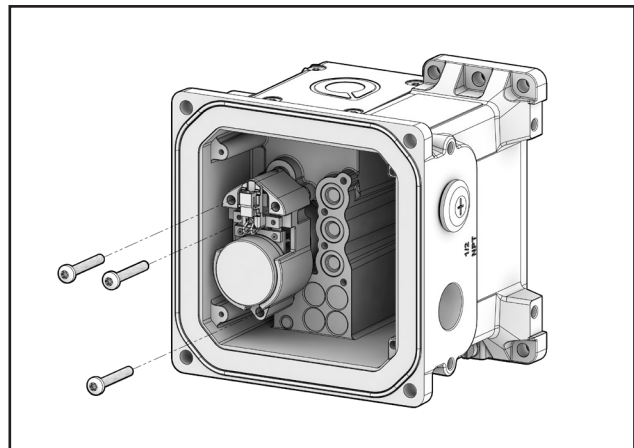

Fig. 75 NDX_511_ and NDX_512_ prestage location.
- under main cover and LUI module (Fig. 75)